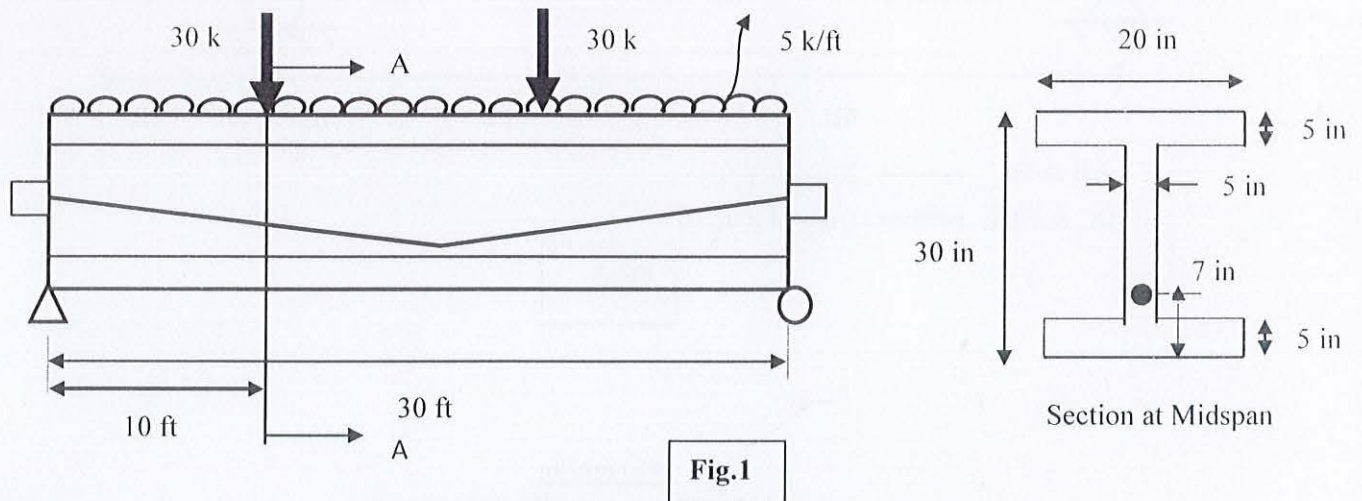

Fig.1
1. A prestressed concrete I beam is indicated in Fig. 1 below. It has a simple span of 30 ft. It is loaded by a uniform load of 5k/ft including its own weight and two concentrated live loads of 30 kips placed at one-third of the span from each end as shown in the figure. The beam has a prestress of 350 kips in the steel immediately after prestressing, which eventually reduces to 300 kips due to losses. For simplification purposes, the layout of the tendon is assumed to be linear with maximum sag at midspan. Compute the extreme fiber stresses at the cross-section A-A which is located 10 ft from the left end support.